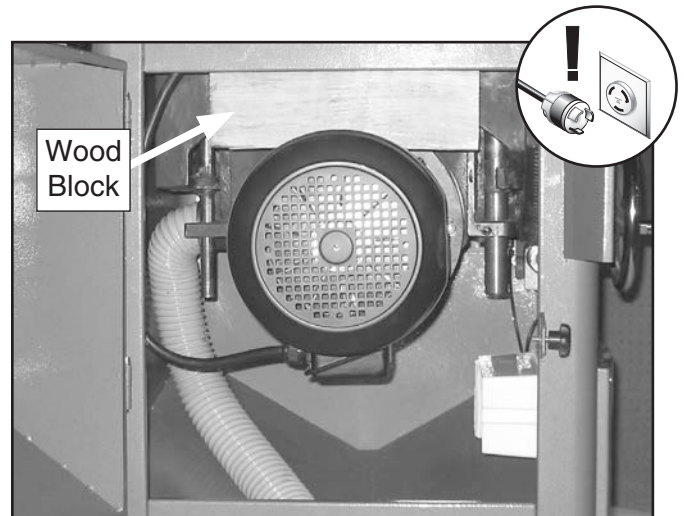

Figure 69. Using wood block to tension belt.
7. Raise the arbor assembly to tension the belt, ensuring that the wood block is between the motor and cabinet, as shown in **Figure 69**.